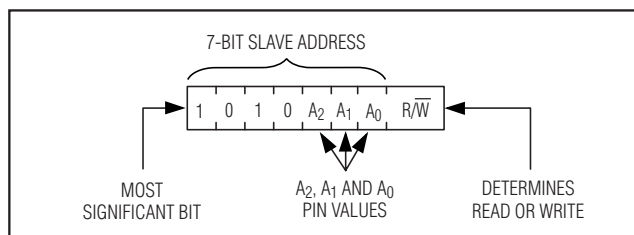

Figure 15. Slave Address Byte
**Slave Address Byte:** Each slave on the I2C bus responds to a slave addressing byte sent immediately following a start condition. The slave address byte (Figure 15) contains the slave address in the most significant 7 bits and the R/W bit in the least significant bit.